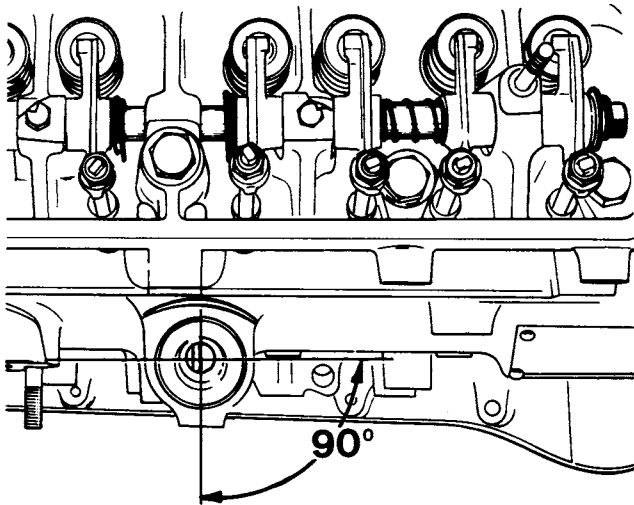

FIGURE 58. DISTRIBUTOR DRIVE SHAFT ALIGNMENT
2. The position of the distributor drive shaft slot must be square with the longitudinal center line of the engine. With the largest offset facing the fly-wheel end (Figure 58).